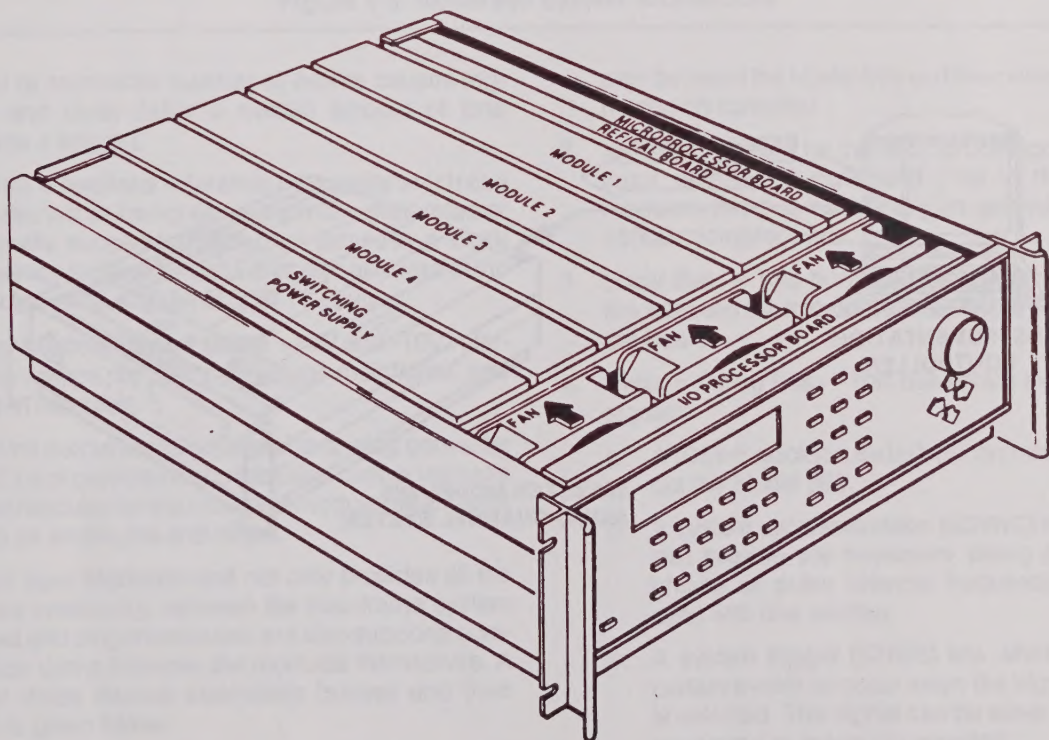

Figure 1-1. The Model 869 Multi-Channel Mainframe
The Wavetek Model 869 Multi-Channel Pulse Generator System, shown in figure 1-1, is a bench or rack mounted test instrument.
1. The System Mainframe which controls and supports the modules (figure 1-1),
2. One to four Model 680-03 Pulse Generator plug-in modules(figure 1-1).